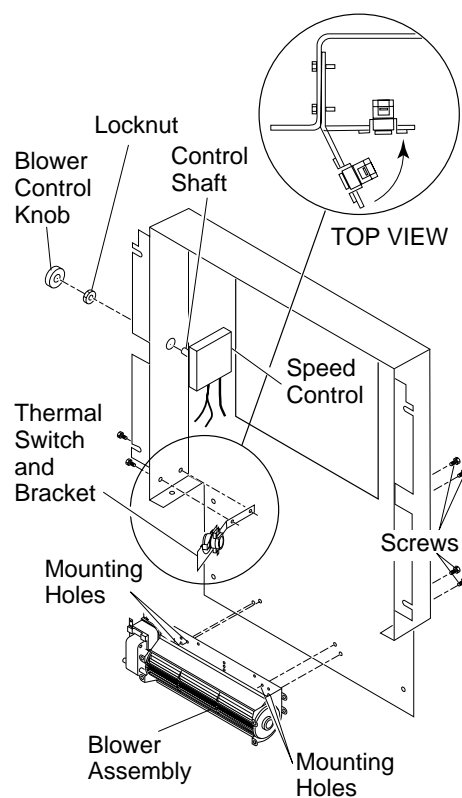

Figure 19 - Blower Assembly, Speed Control, and Thermal Switch Locations
3. Align the holes in the top mounting tabs of blower with the holes in wall of rear cover. Using the 4 screws provided, mount blower and tighten screws securely (see Figure 19).
4. Attach thermal switch and bracket to inside rear cover wall with two hex head screws provided as shown. After securing bracket to rear cover, carefully bend along existing bend line on bracket to almost a 90° angle (see Figure 19). This will allow thermal switch to be positioned against stove rear wall and sense temperature when in operating mode.
- Place speed control on left inside of rear cover and push the plastic control shaft through opening (see Figure 19).